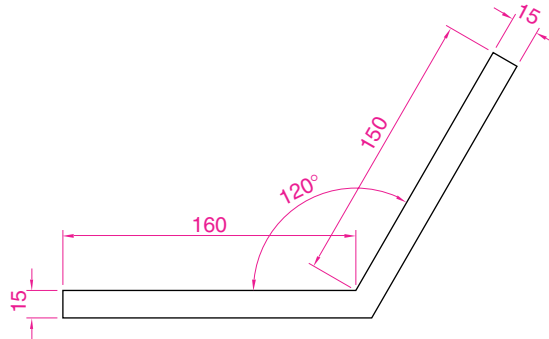

Fig. 17.5 First example – Changing UCS planes – pline for extrusion
1. Set **UCSFOLLOW** to **1** (ON).
3. Construct the pline outline in Fig. 17.5 and extrude to a height of **120**.